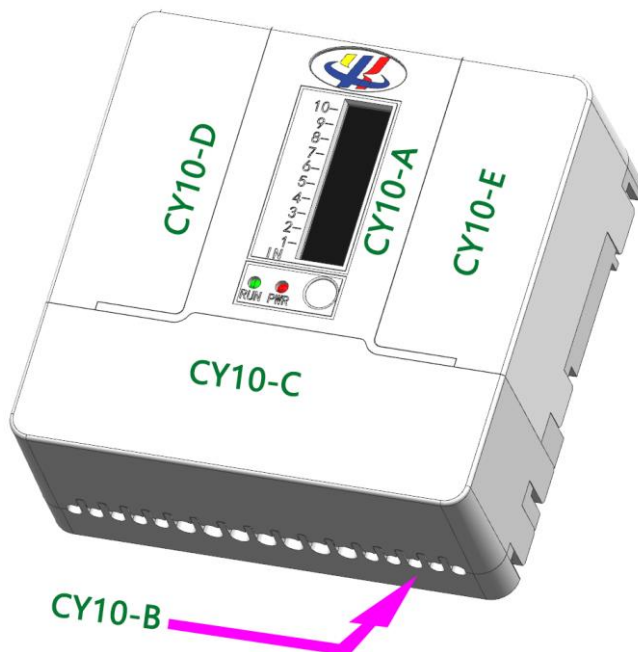

Figure1
A. Separate the entire CY10 controller to ensure that it is not fixed in a certain environment, as shown in Figure 1.
(2) Use your thumb to squeeze the side line of CY10-D and the side line of CY10-A with force on the top surface of CY10-D. The purpose is to make the CY10-D "positioning small convex cell" enter the "positioning small circular groove" of CY10-A, and make the CY10-D "positioning block" enter the "positioning gap" of CY10-A. Until the two sides are seamless or can no longer be squeezed. Figure 1 and related names
(2) Use your thumb to squeeze the CY10-E sideline and CY10-A sideline direction firmly on the top surface of CY10-E. The purpose is to make the "positioning small convex cell" of CY10-E enter into the "positioning small circular groove" of CY10-A, and make the "positioning block" of CY10-E enter the "positioning gap" of CY10-A. Until the two sides are seamless or can no longer be squeezed. Figure 1 and related names
of CY10-C. The purpose is to make the "positioning small convex cells" of CY10-C enter the "positioning small circular groove" of CY10-A, and make the "positioning block" of CY10-C enter the "positioning gap" of CY10-A. Until the two sides are seamless or can no longer be squeezed. Figure 1 and related names